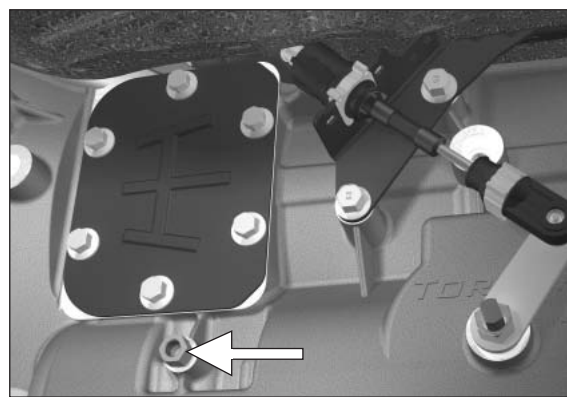
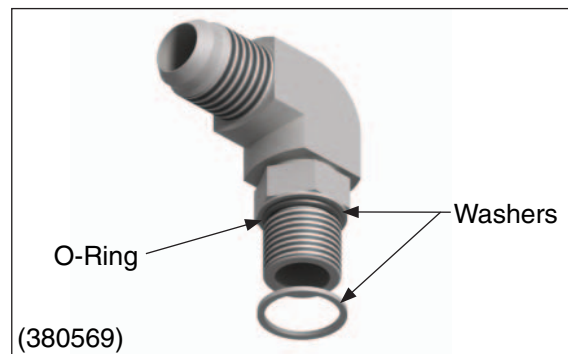

Figure 43
Figure 44
3. Remove the plug from the transmission pressure port (Fig. 43) and install fitting in the opening (Fig. 44).
**IMPORTANT:** Both Washers and the O-Ring must be present at installation. The second Washer must fit around the O-Ring for proper seal (Fig. 44).
380569 90° Adapter Fitting (1 each) (Fig. 44).